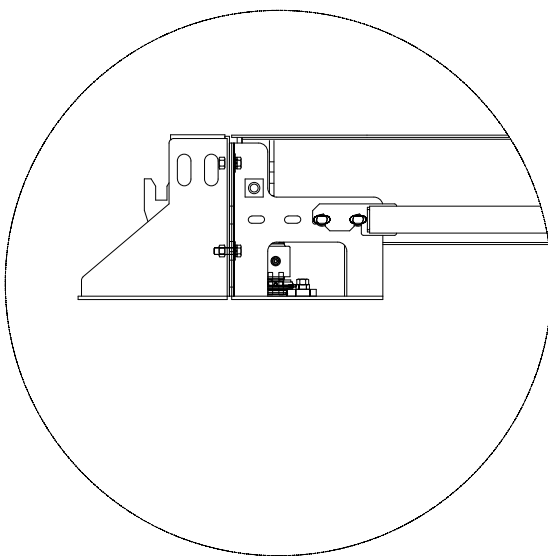

Figure 10
1. The next step involves securing the provided pipe space weldments between each end module and the center module. Each end module will require pipe spacers installed on either side of the module. *See Figures 10 & 11*